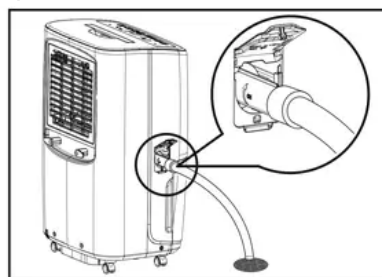

fig. 8
- Direct the hose toward the drain, making sure that there are no kinks that will stop the water flowing. (fig.8)